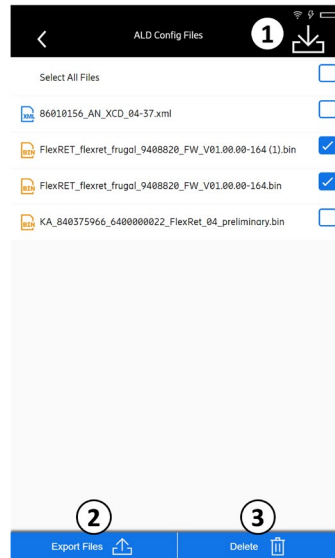

Fig. 35: System configuration: File Management ALD, ALD Config Files
1. Tap Import (① in Fig. 35) to import an ALD Config File from the USB stick onto the ALC.